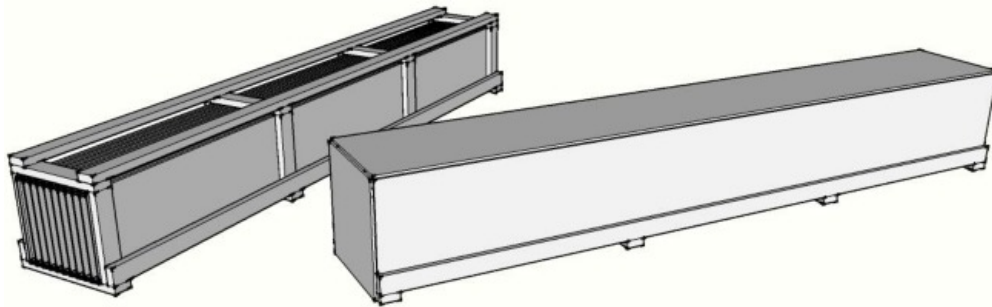

Figure 1: Packaging for panels (open crate and completely enclosed crate options)
- Panels are shipped in bundled units of approximately thirty to fifty panels. Panels are stacked on edge and are packaged with wood blocking in an open crate design. Space is provided under crates for access by forks of lift truck or inserting lifting slings/straps when offloading by crane. (Figure 1).